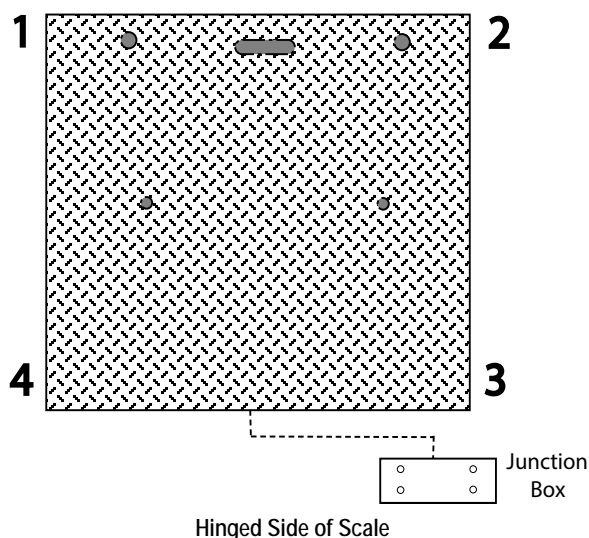

Figure 2-3. Corner Numbering - Top View
6. Wire the cables to the junction box according to the corner numbering diagram (Figure 2-3) and the load cell wiring chart (Table 2-3).
1. Remove the junction box cover and identify the load cell terminals corresponding to each corner (labeled **CELL 1**, **CELL 2**, **CELL 3**, and **CELL 4**). See Figure 2-3 on page 4.